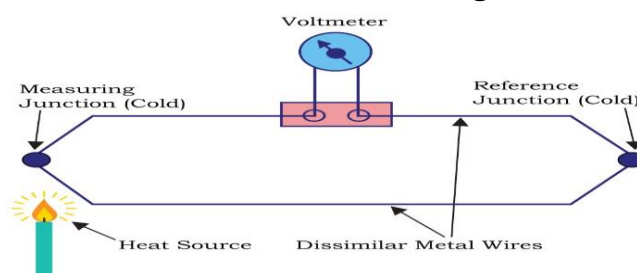

Fig. 2.22 Thermocouple Transducer
Step 3. Connect the voltmeter in between the junctions as shown in Figure 2.22.